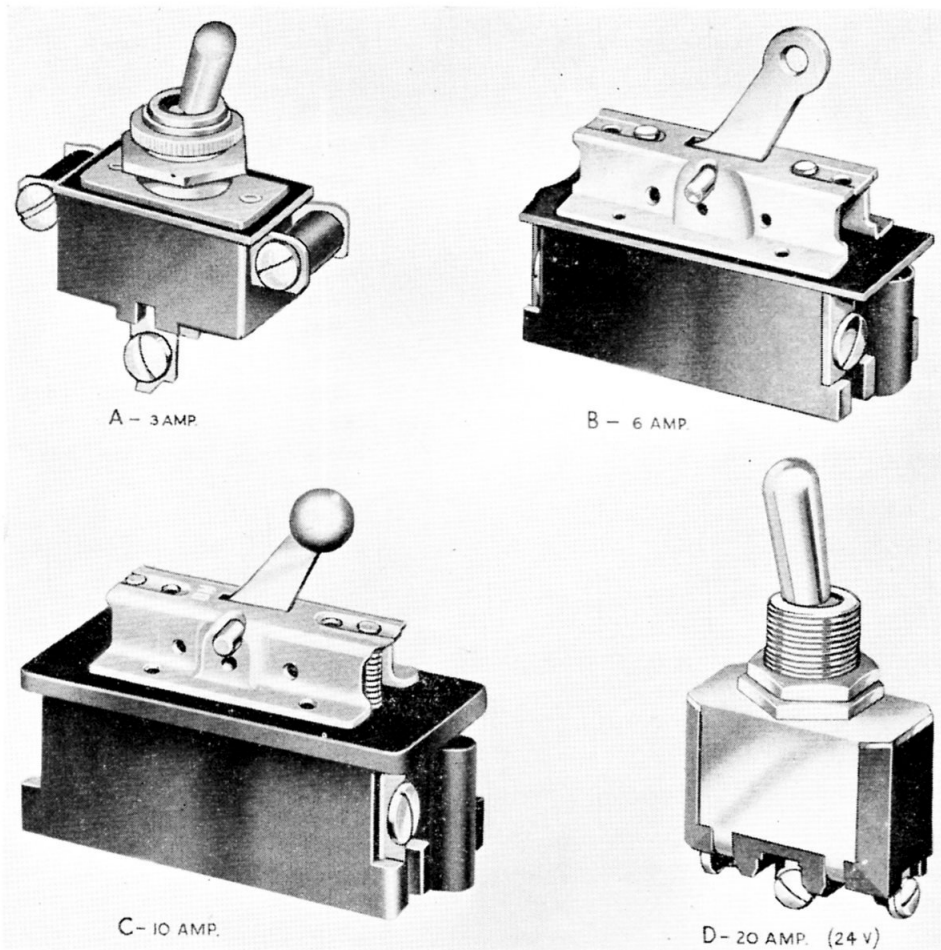

Fig. 1. Typical British N.S.F. switches
2. These switches, of which representative types are illustrated in fig. 1, may be either two-position or three-position, as listed in Tables 1 and 2. All those with a plain operating lever are designed for single-hole mounting, being secured to the panel by a hexagon lock-nut and knurled locking ring (3-amp. switches), or hexagon lock-nut and hexagon face nut (6, 10 and 20-amp. switches)
5. The two-position switches, all of which are rated for use on 250 volts a.c. or d.c., are listed in Table 1. They may be either on/off switches, single-pole or double-pole (S.P.S.T., D.P.S.T.), in which the keyway on the bush faces the OFF position in each instance, or double-pole change-over (D.P.D.T.). The majority have a plain operating lever, as shown in (a) of fig. 1, and are therefore for single-hole mounting; those with a flat operating lever with a hole (b), or ball-ended lever (c), will be secured by two screws to the panel.
8. A further range of three-position switches rated for use on 24 volts d.c., are listed in Table 2; their rating on 250 volts a.c. only is 10 amp. A typical switch is shown in (d) of fig. 1. They are of the slow make-and-break